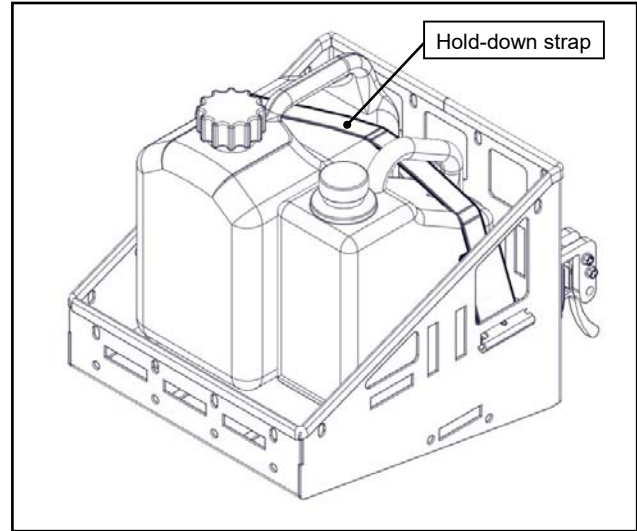

Fig. 3 (install adjustable length hold-down strap end)
3. Install the adjustable length E-track cam-buckle strap in the desired E-track slot location. Run the strap through each of the fuel cans' handles as shown in fig. 3.